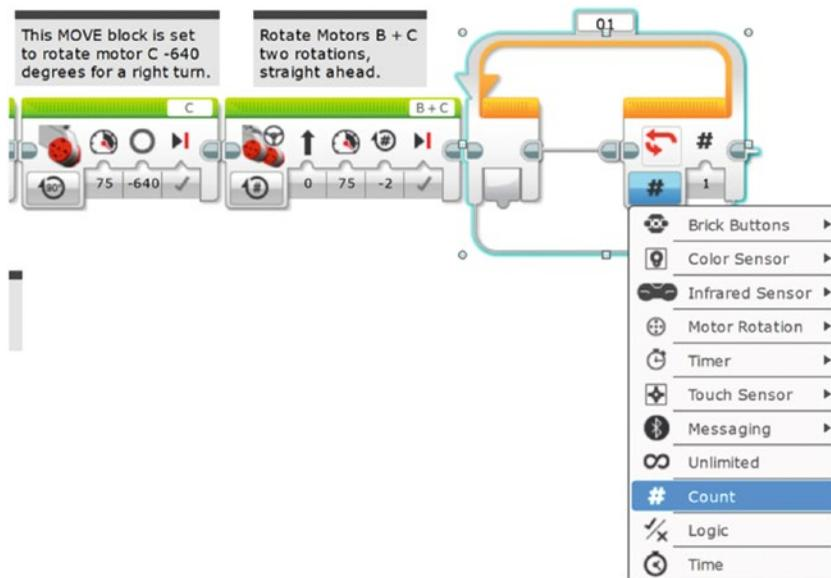
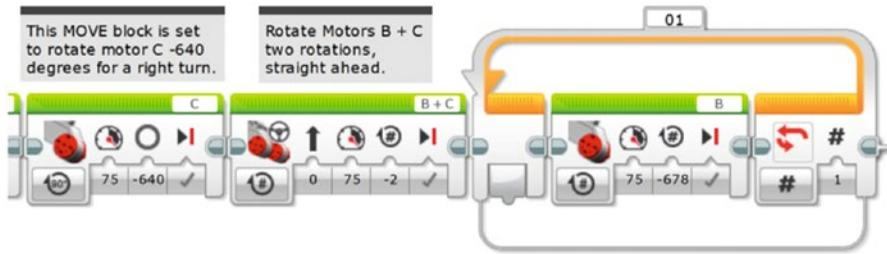
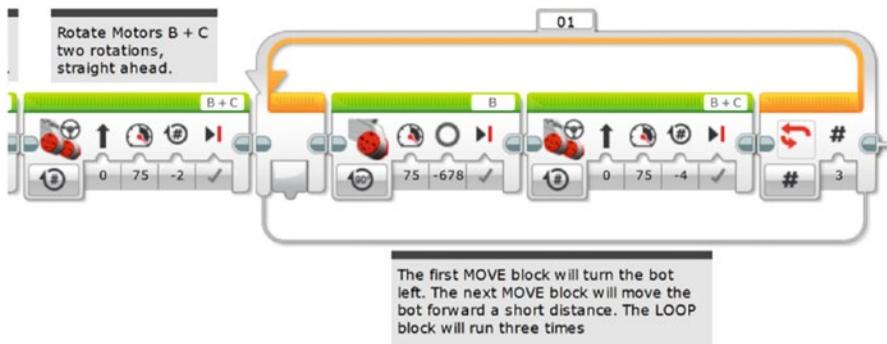

Figure 12-11. The LOOP block will get the bot around the basket. The pull-down menu shows how to select Count.
Figure 12-12. This Motor Steering block turns the bot left
Figure 12-13. This Motor Steering block moves the bot forward a short distance
If you examine the mini-map in Figure 10-8, you’ll notice that once the bot reaches point A, it will make three left turns before heading back to its starting point. It will turn left (1) at point A, move forward, and stop at point B; turn left (2), move forward, and stop at point C; turn left (3), then finally move forward, and stop at point D. This is a perfect location to use a LOOP again. It allows us to reduce the number of programming blocks by performing the same actions three times. Those actions are “Turn Left and Move Forward a Short Distance.” So let’s place the LOOP first (see Figure 12-11).
The LOOP block in Figure 12-11 will run three times. Any blocks placed in it will also run three times before the LOOP block breaks and the program continues. What will happen three times? First, a left turn: a Motor Steering block will turn the bot left. Second, the bot will move forward approximately two or three feet. Back in Chapter 10, we determined that 3.5 rotations would be needed to move our bot two feet. Let's round that number up to four rotations (28 inches), which should give us plenty of room for our bot to navigate around the basket. So, you'll first place the Motor Steering block for a left turn (see Figure 12-12).
Next, place the Motor Steering block to move the bot forward 28 inches (see Figure 12-13). But take a look at that Large Motor block. It is set for -678 degrees, right? Well, when I ran that program in Figure 12-12, motor B turned... and turned... and turned! It seemed to run forever. I interrupted the robot and looked more closely at the program. It was set for -678 turns! So I changed the Turns symbol to Degrees. That's what you see in Figure 12-13. I put the next Motor Steering block in, to advance motors B and C four rotations. Again, I downloaded the program, simply running it while holding the SnapShotBot in my hand to test it. All without getting up.